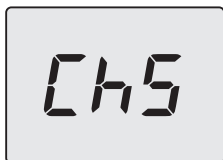

Figure 9.22
- Scroll through the various menus by pressing the keys 14 (back) or 16 (forward), until **ChS** (Chimney sweep) appears on the LCD display (Figure 9.22).